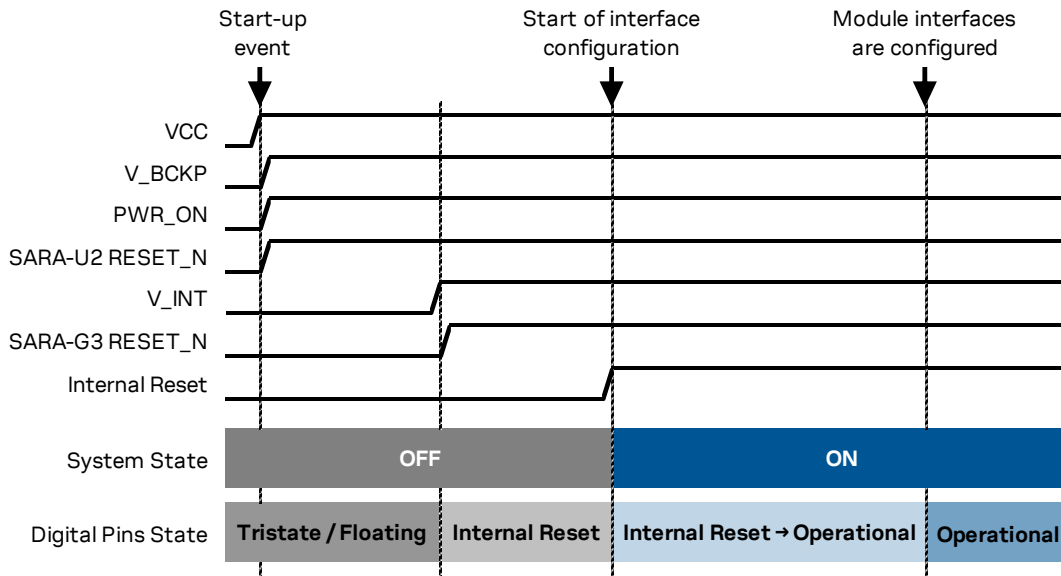

Figure 21: SARA-G3 / SARA-U2 series power-on sequence from not-powered mode
Figure 21 shows the module's power-on sequence from the not-powered mode, describing the following phases:
- The status of the **PWR\_ON** input pin while applying the **VCC** module supply is not relevant: during this phase the **PWR\_ON** pin can be set high or low by the external circuit, but in Figure 21 it is assumed that the **PWR\_ON** line rises suddenly to the high logic level due to external pull-up connected to **V\_BCKP** or **VCC**.